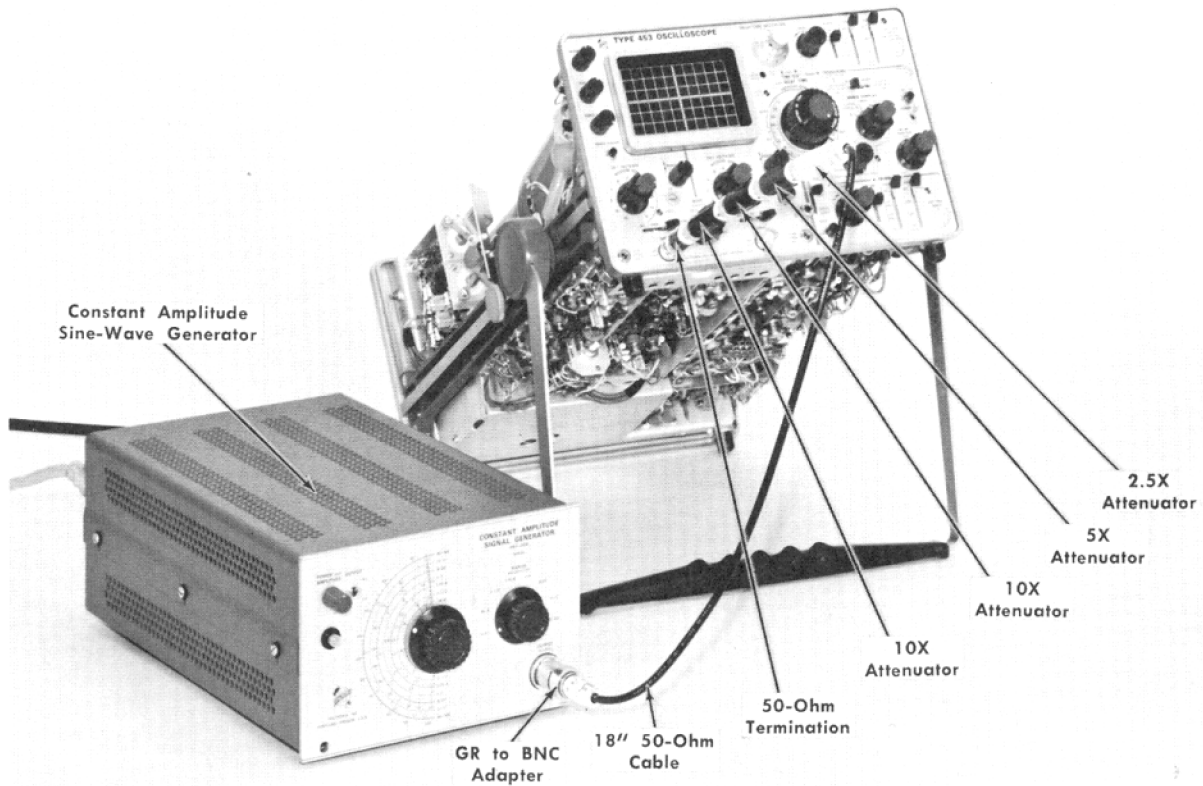

Fig. 6-33. Initial test equipment setup for steps 29 and 30.
- a. Test equipment setup is shown in Fig. 6-33.